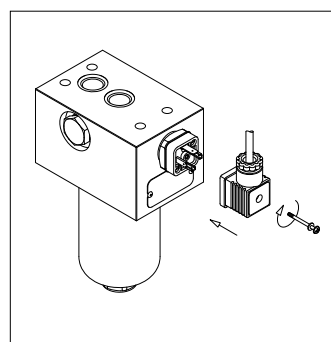

fig. 12
- (Fig. 12) Insert the connector by fastening the central screw (only for electrical indicators)